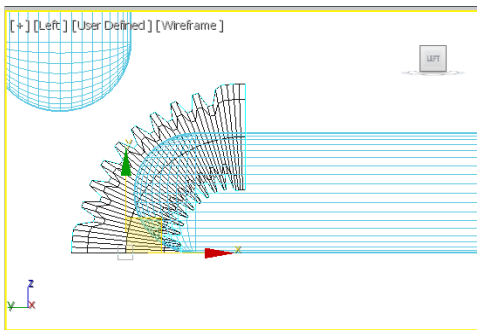

Figure 3-33 The spring support geometry zoomed in the Left viewport
8. Activate the Left viewport and make sure that *spring support* is selected. Choose the **Zoom Extents Selected** tool; *spring support* is zoomed in the Left viewport, as shown in Figure 3-33.